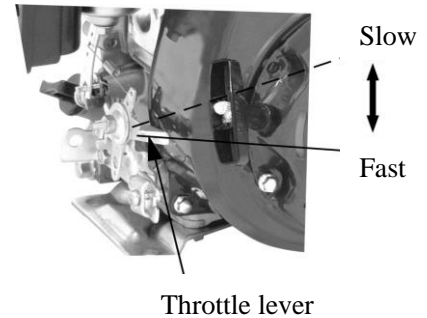

Fig.10
7. Set the throttle lever in proper position to ensure the engine runs at required velocity (Fig. 10).